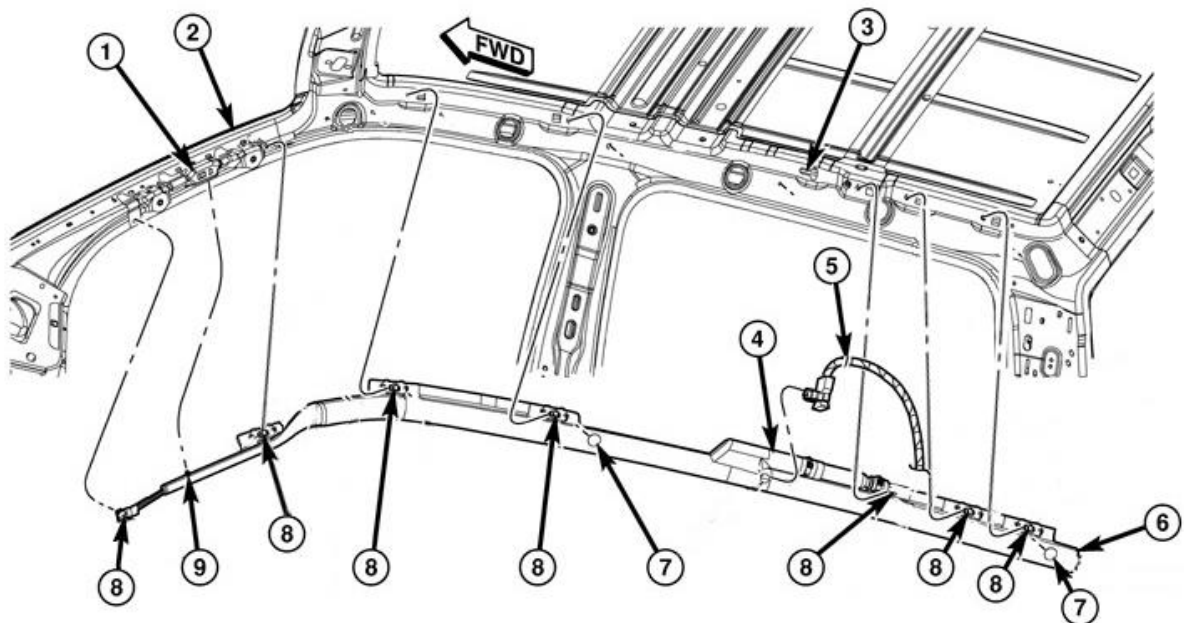

Figure 37 – Side Curtain Airbag
29. The body wire harness connector (5) is secured by integral latches to the connector receptacle on the inflator (4). Pinch both latches firmly, then pull the connector straight out from the airbag inflator to disconnect it from the connector receptacle (Figure 37).
30. Remove the seven bolts (8) that secure the side curtain airbag (6) to the inner roof rail and A-pillar (Figure 37).
31. Disengage the push-in retainer (9) that secures the side curtain airbag tether to the inner A-pillar (1) and the two push-in retainers (7) that secure the side curtain airbag to the inner roof rail (Figure 37).
33. Remove the CAB (6) from the vehicle as a unit and **DISCARD** following local ordinances and recommended procedures for handling and disposal of Non-Deployed Supplemental Restraints (Figure 37). Provided packaging is not authorized for the transport of the recalled CAB Module. Parts will need to be either deployed on-site or transported in alternative approved containers.
35. Position the **NEW** CAB (6) into the vehicle as a unit (Figure 37).
37. Engage the two push-in retainers (7) that secure the side curtain airbag to the inner roof rail and ensure the tether is not twisted then engage the push-in retainer (9) that secures the side curtain airbag front tether to the assist handle bracket on the inner A-pillar (1) (Figure 37).
38. Working from rear to front, install and tighten the seven bolts (8) that secure the side curtain airbag (6) to the inner roof rail and A-pillar. Tighten the bolts to 7 N·m (62 in. lbs.) (Figure 37).
39. Connect the body wire harness connector (5) for the side curtain airbag to the connector receptacle of the inflator (4). Be certain that each connector is fully engaged in its receptacle by listening carefully for a distinct, audible click as the connector latches snap into place (Figure 37).